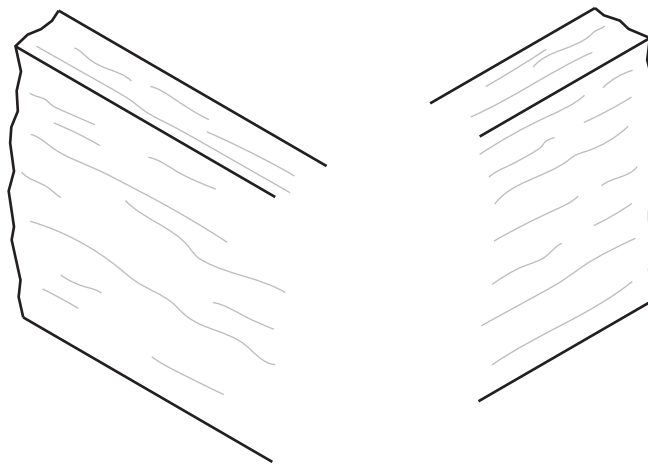

Fig. 13.2
- (b) The sides of the case will be joined at each corner by means of a half lap joint. Add to Fig. 13.2 to show an exploded view of a half lap joint.